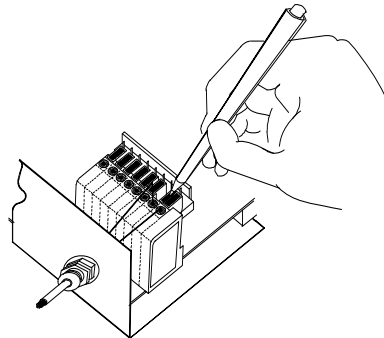

Figure 5 - System Cable Connections
- Using a device such as a screwdriver, push down on the lever directly next to the clamp (see Figure 5).